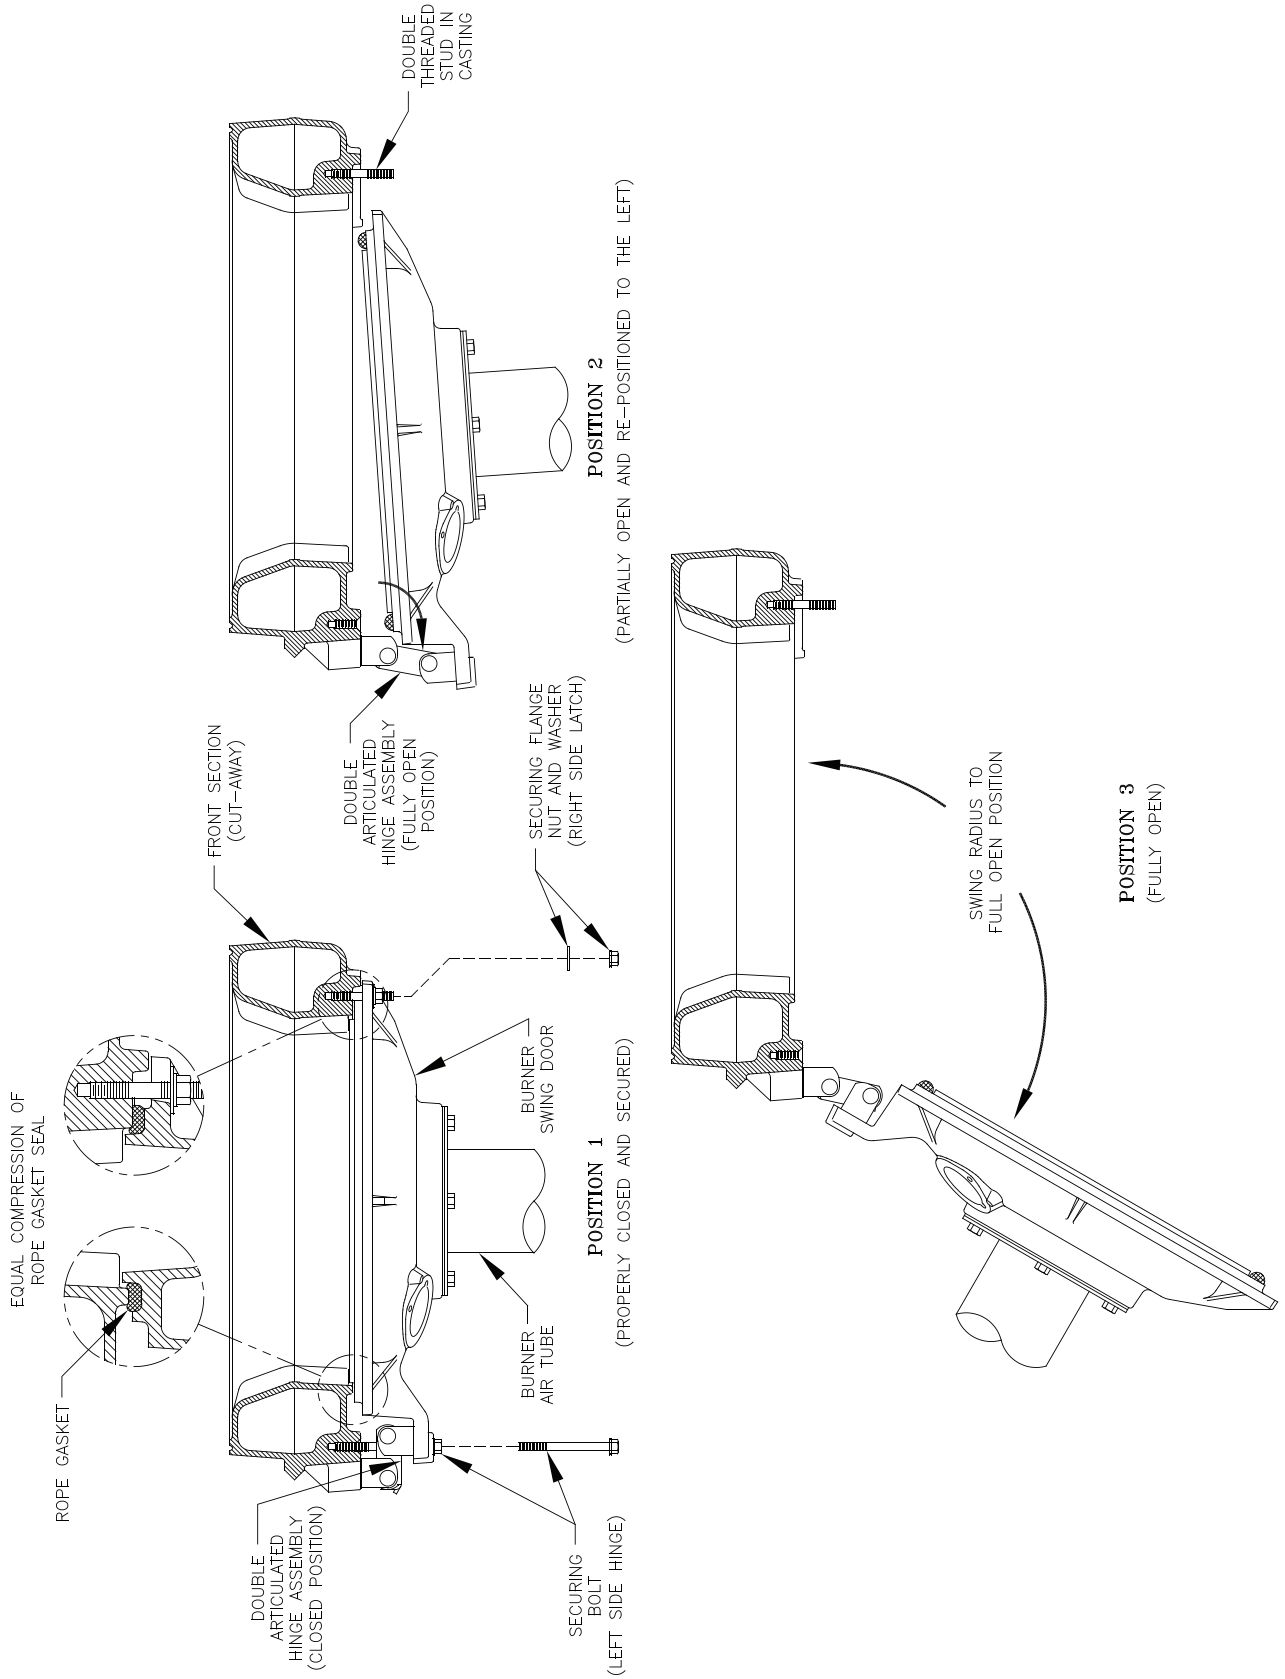

Figure 12B: Top View - Burner Swing Door Mounted to Cast Iron Block Assembly (Jacket Removed for Clarity)
Step 3. Use a hand wrench to tighten door hardware and **always start with the right side flange nut first** (see Figure 12B). Use an alternating tightening method from right side flange nut to left side flange bolt to tighten door equally until sealed without applying excessive torque. **Never** tighten left side flange bolt first or tighten either piece of hardware 100% without using the alternating tightening method described above.
Step 3. The duel pivot articulated hinge allows right side of door to be pulled outward and rotated to the left all in one motion. To do so, place your right hand under burner air tube and lift up slightly to help carry the weight of the door and burner. Use your left hand to grasp the door's left side hinge flange, pull outward to rotate the hinge, this motion will move the door outward and to the left approximately 3" (see Figure 12B, Position 2).
Step 4. From this position the door can be swung clear of the vertical circulator return piping to provide full access to the combustion chamber and burner head (see Figure 12B, Position 3).
Step 1. From the fully open position, rotate Burner Swing Door toward the closed position. Make sure that the articulated hinge is rotated to the extreme left position to allow the door to clear the vertical circulator return piping as shown in Figure 12B, Position 2.